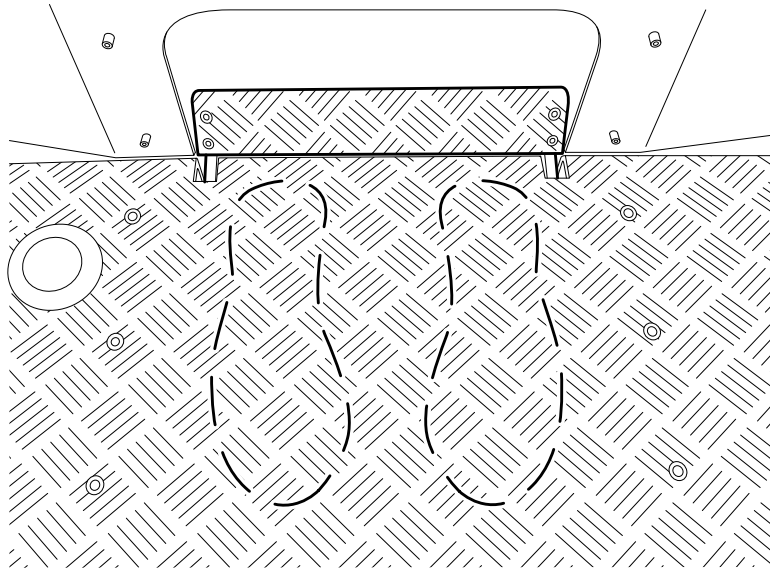

Figure 4-10 Foot marks
5. Place your feet on the foot marks indicated, see Figure 4-10 on page 35.